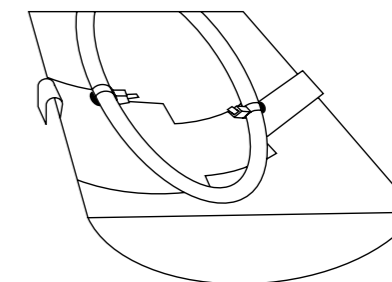

Figure 3. Bar adhered to gutter with aluminium tape
7. Once all bars are attached along the cable, begin adhering them to the inside surface of the gutter. Check the spacing and use the aluminium adhesive tape to hold the bars down (fig 3).